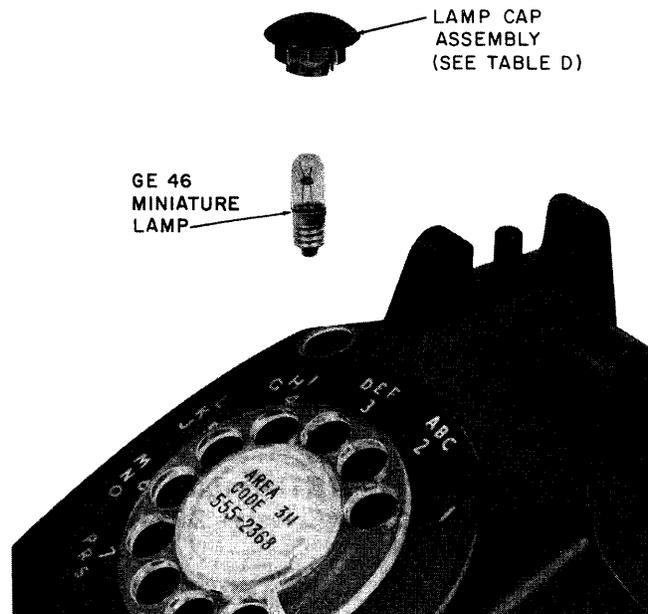

Fig. 12—500H (MD) Telephone Set, Lamp Assembly
- (1) Remove housing from set.
- (2) Remove cap (Fig. 12) from housing by removing screw and clamp located inside housing assembly, discard cap.
(b) **Dial Light:** To remove, turn lamp cap and lamp counterclockwise (Fig. 12) and lift out.